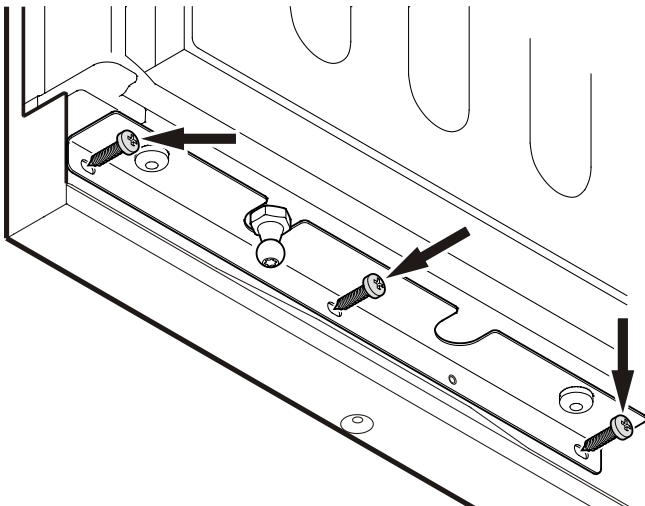

Figure 26
10. Fasten the refrigerator panel with three screws (4 x 16 mm) at the bottom **Figure 26**.